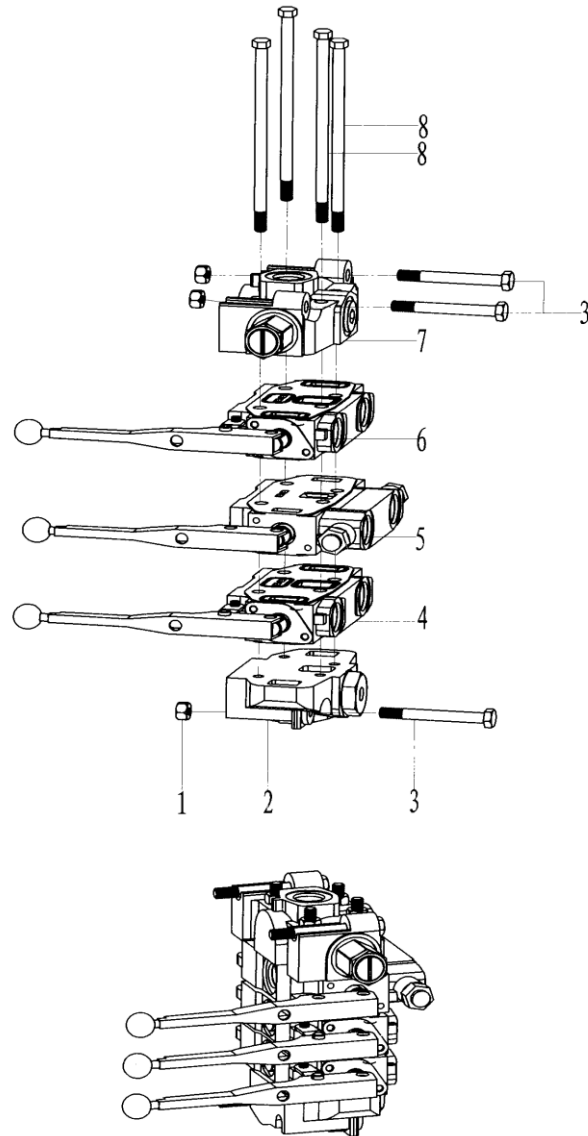

Fig 13
7.13 Hydraulic valve bank (five connection valve) (Fig 13, Table 13)